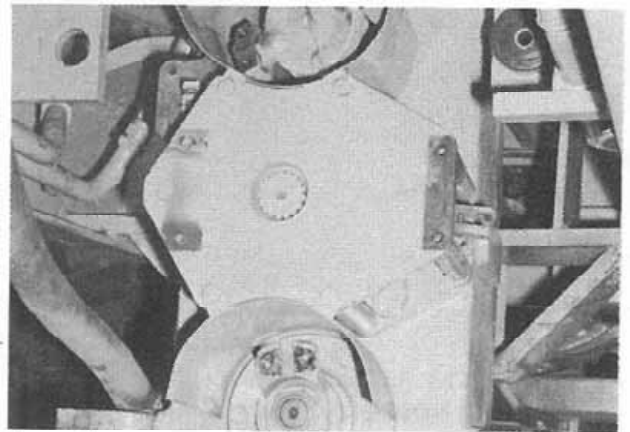

Figure 5:
5. As the unit is completely vertical (Fig. 5) and the rear hoist is supporting the whole unit, the front hoist and chains may be removed.